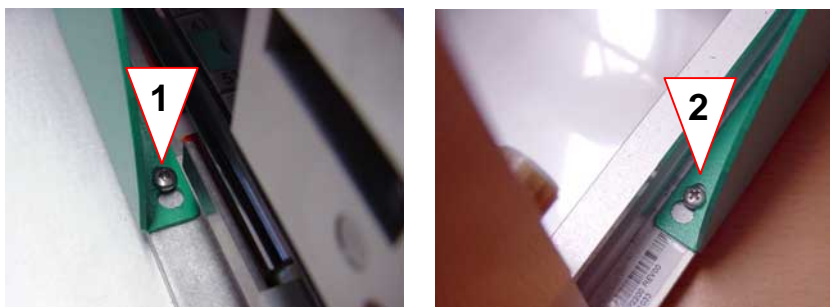

Fig. 4-5 Side cover mounting screws
14. Remove the screws of the side covers (see Fig. 4-5, 1 and 2).